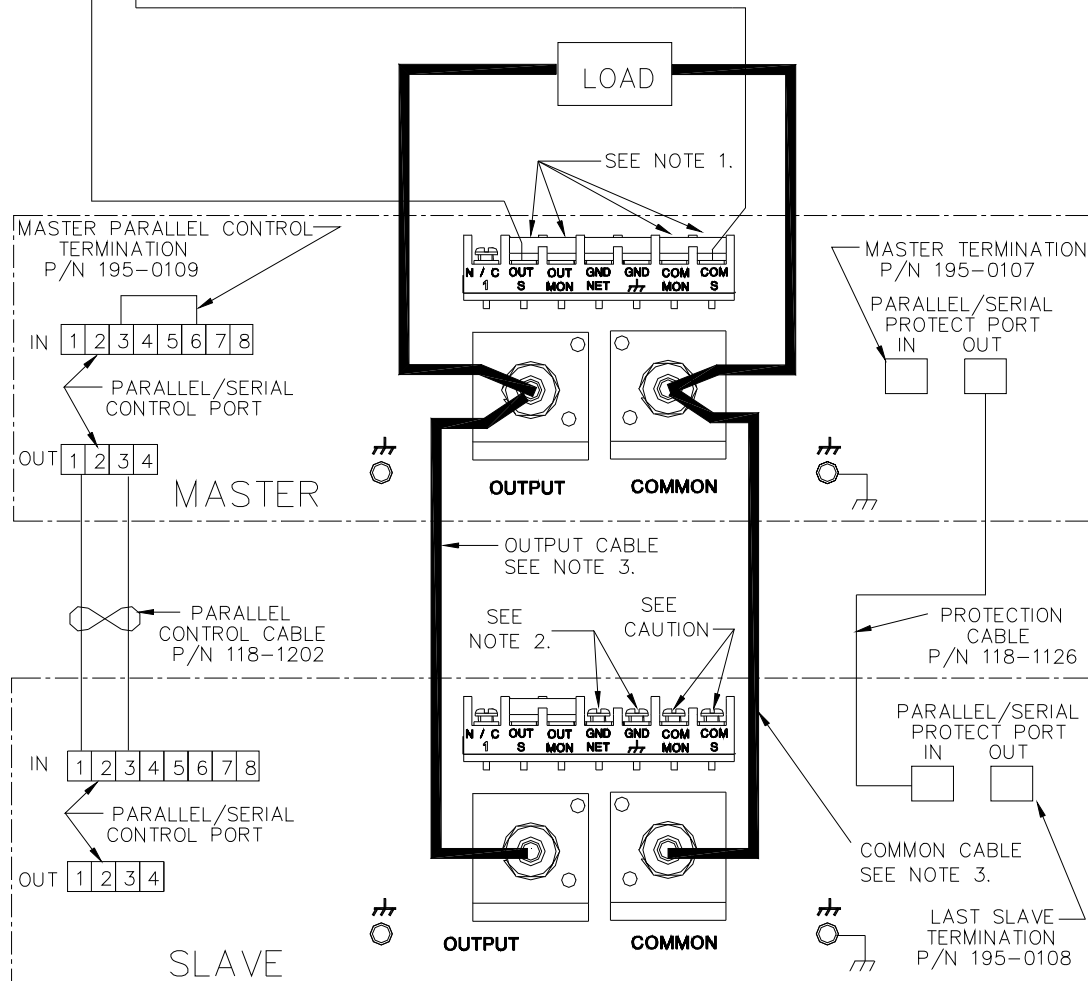
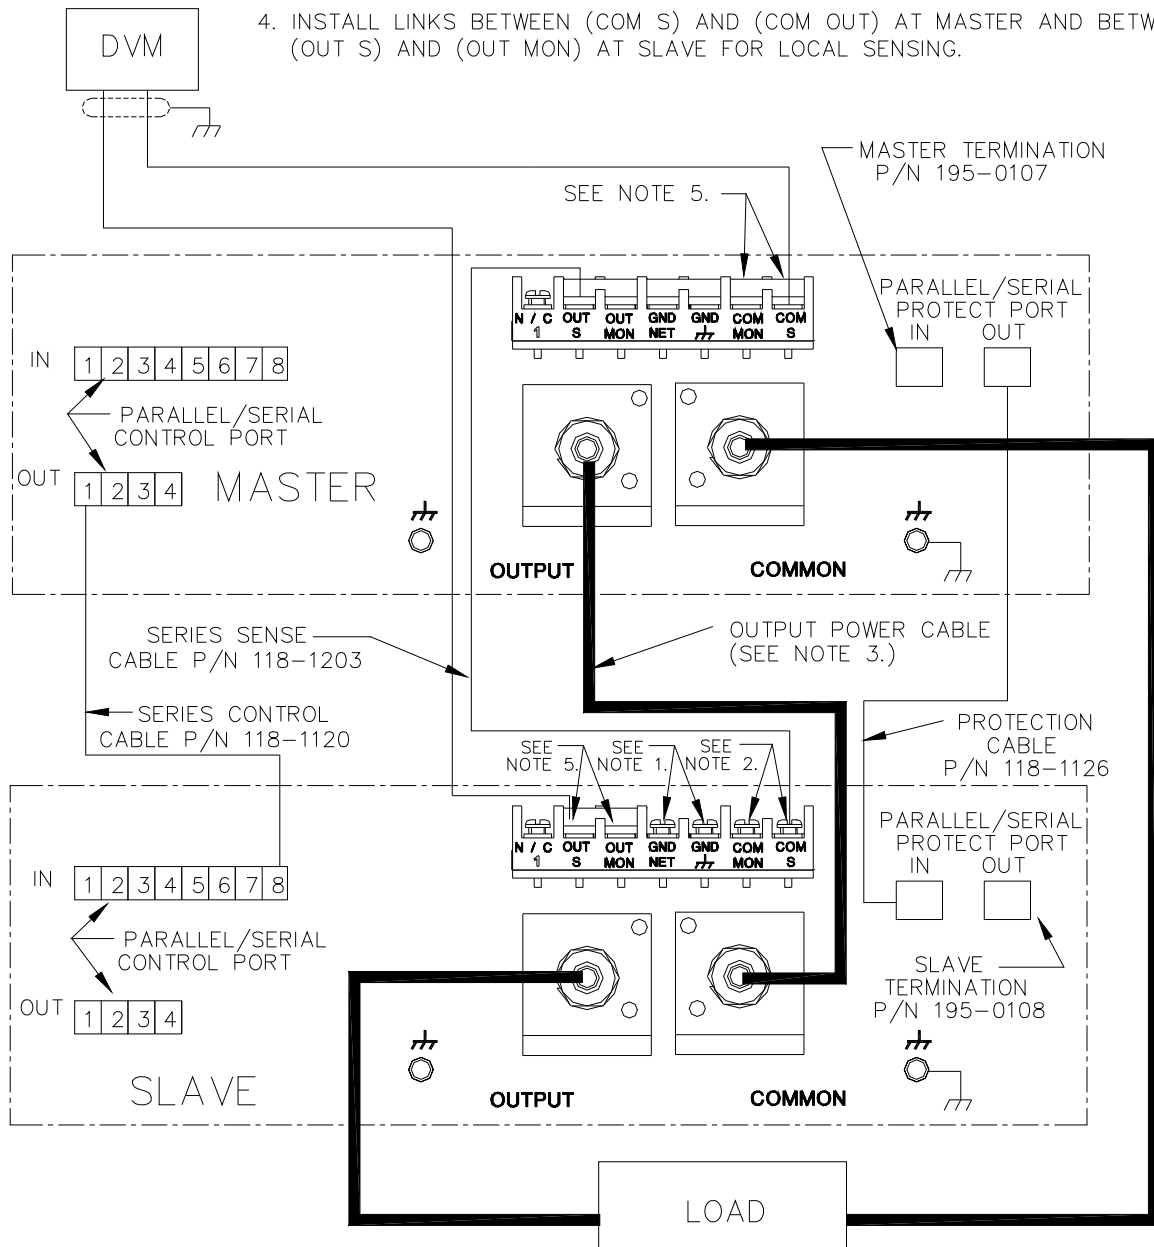
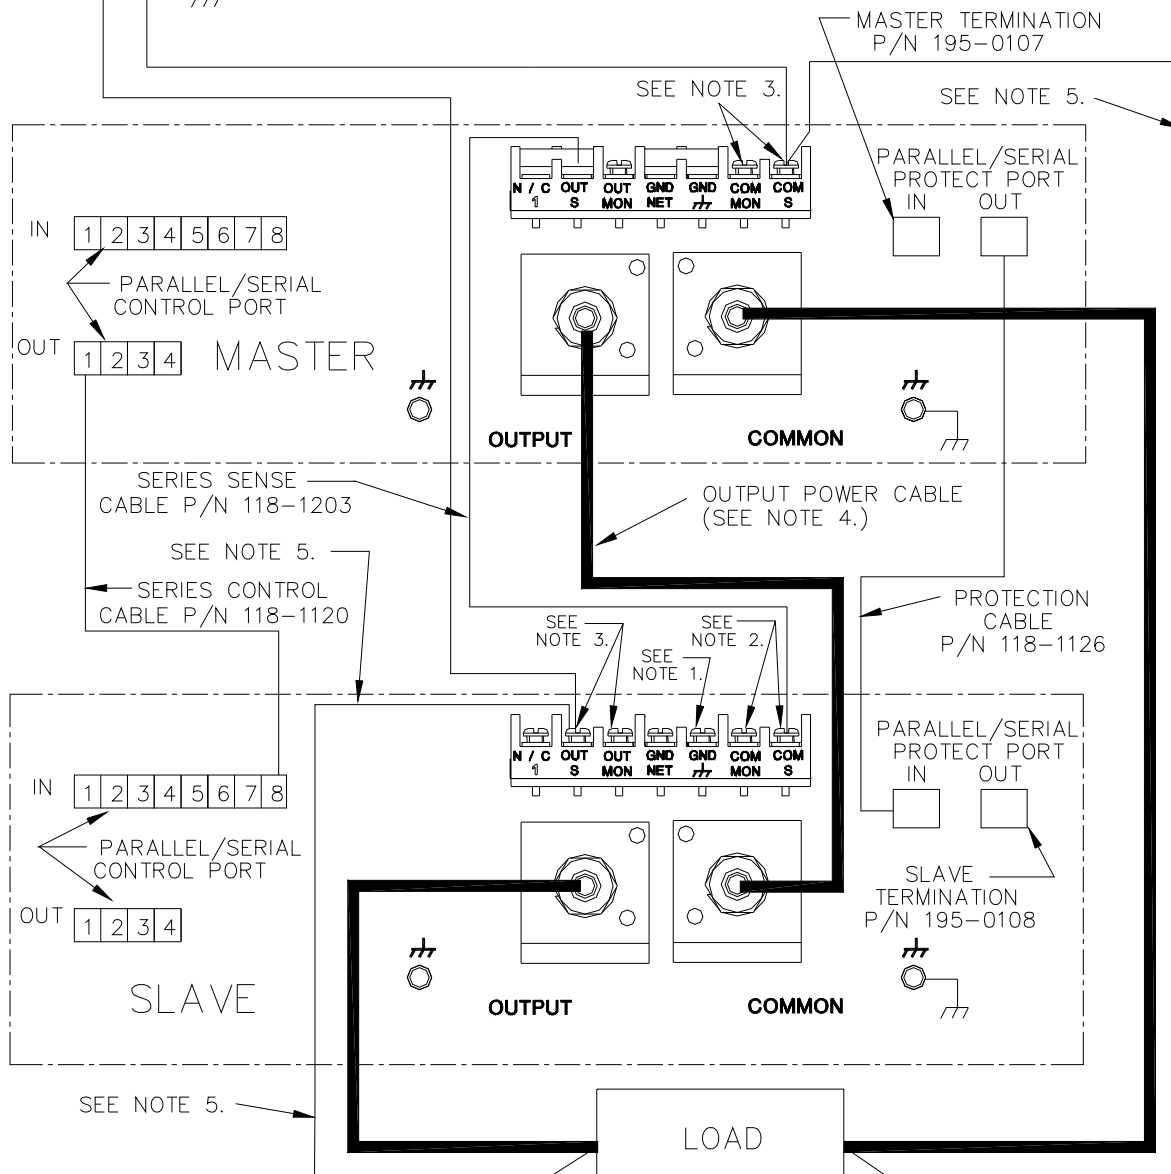

FIGURE 2-4. PARALLEL CONFIGURATION, LOCAL SENSING, TYPICAL
FIGURE 2-6. SERIES CONFIGURATION, LOCAL SENSING, TYPICAL
FIGURE 2-7. SERIES CONFIGURATION, REMOTE SENSING, TYPICAL
Before powering up the units to be configured, first connect the units in parallel or series. Figures 2-4 (local sensing) and 2-5 (remote sensing) show the connections for parallel-connected units; Figures 2-6 (local sensing) and 2-7 (remote sensing) show the connections for series-connected units.
4. Install jumpers on the rear panel terminal block of both master and slave as shown in either Figure 2-4 when using local sensing or Figure 2-5 when using remote sensing.
5. Install the Parallel Control and Protection cables and terminations as shown in either Figure 2-4 when using local sensing or Figure 2-5 when using remote sensing.
4. Install jumpers on the rear panel terminal block of both master and slave as shown in either Figure 2-6 when using local sensing or Figure 2-7 when using remote sensing.
5. Install the Parallel Control and Protection cables and terminations, as shown in either Figure 2-6 when using local sensing or Figure 2-7 when using remote sensing.